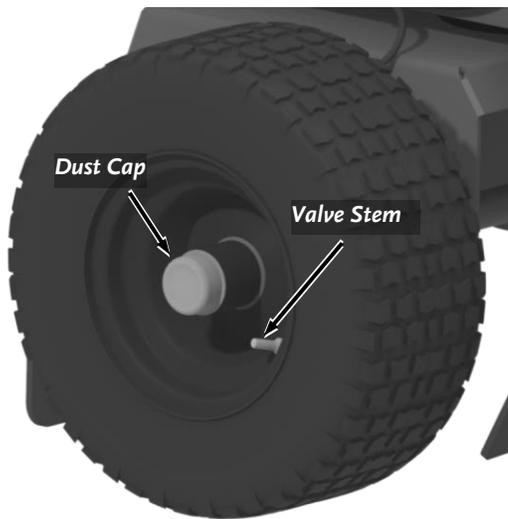

Figure 5
1. Remove the Valve Stem Protective Cap (**Figure 5**) and check the tire pressure with a Tire Pressure Gauge.